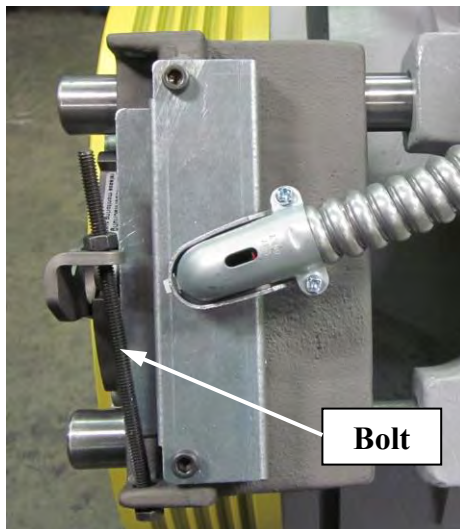

Figure 2
- Energize the brake needing service (to unlock brake from machine rotor). Insert long 1/4" bolt across mounting flanges to hold brake open while removing from machine. Refer to Figure 2.